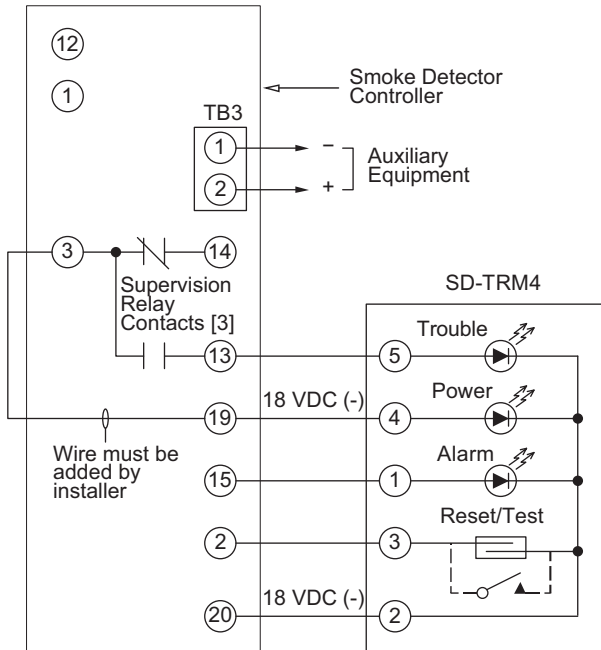

Fig. 59 — Remote Test/Reset Station Connections
The test/reset station dirty sensor test checks the test/reset station’s ability to initiate a sensor dirty test and indicate the results. It must be wired to the controller as shown in Fig. 59 and configured to operate the controller’s supervision relay. For more information, see “Dirty Sensor Test” on page 40.
1. Verify that the remote test/station is wired as shown in Fig. 59. Repair or replace loose or missing wiring.